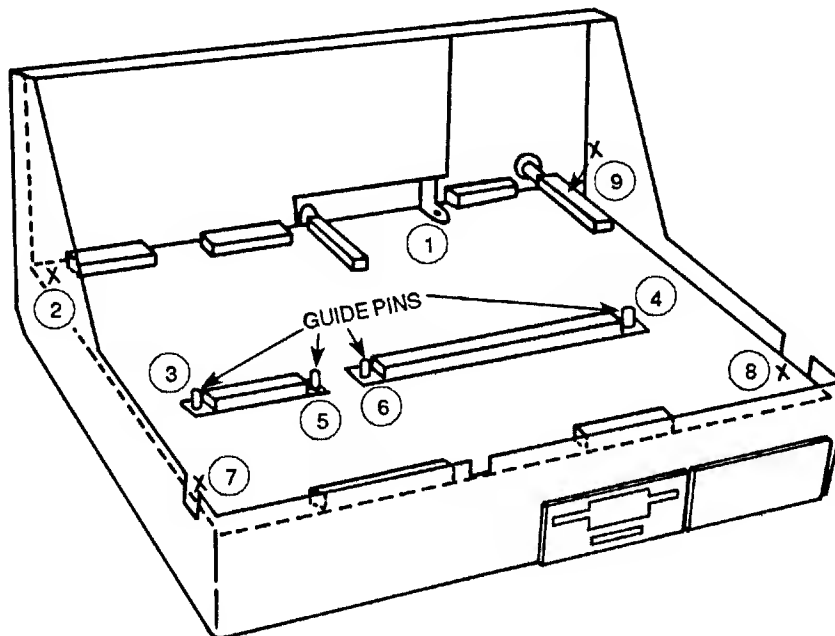

Figure 2-8. Reinstalling the Controller Board
3. Install the five screws and four guide pins in the order shown in figure 2-8.